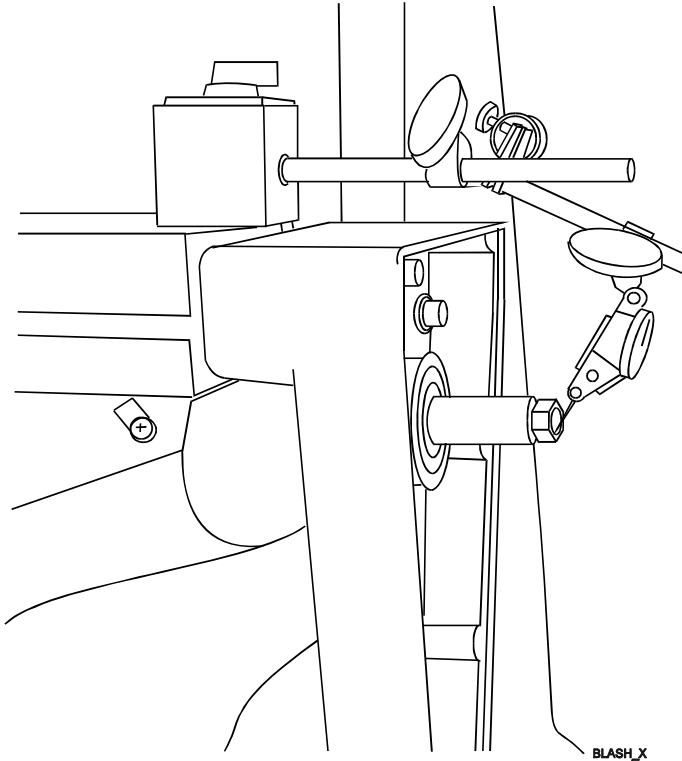

Figure 3-9, Typical Indicator Position
1. Measure the amount of backlash currently on the X-axis. Set the magnetic base with the indicator attached on the right edge of the table surface. Attach the base so that the indicator tip rests against the end of the ballscrew. Set the indicator to 0. Refer to **Figure 3-9, Typical Indicator Position**.